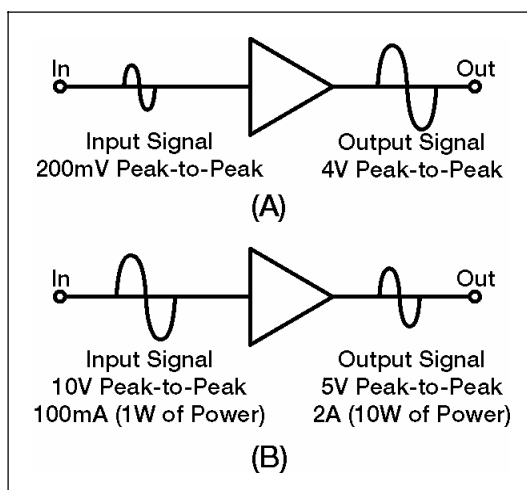

Figure 5-2. Block Diagram of Voltage and Power Amplifiers
5-14. Figure 5-2 shows a simple block diagram of a voltage amplifier with its input and output signals and a power amplifier with its input and output signals. Notice that in view (A) the output signal voltage is larger than the input signal voltage. Since the current values for the input and output signals are not shown, you cannot tell if there is a power gain in addition to the voltage gain. In view (B), the output signal voltage is less than the input signal voltage. As a voltage amplifier, this circuit has a gain of less than 1. However, the output power is greater than the input power. Therefore, this circuit is a power amplifier.